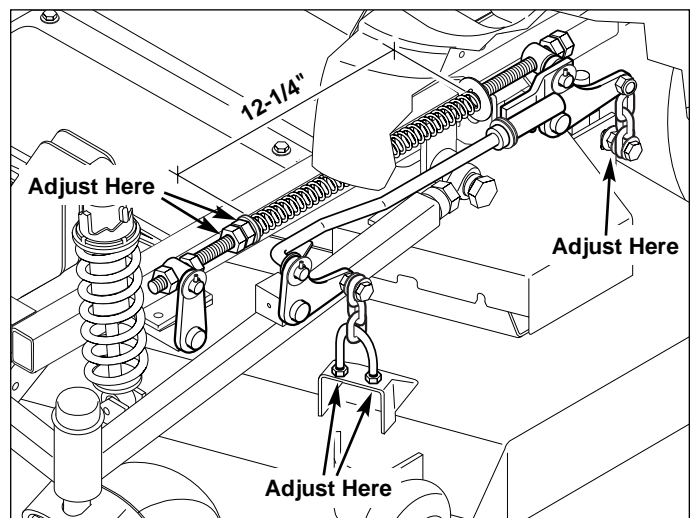

Figure 33. Deck Level & Spring Length Adjustment
7. Adjust the front U-bolts until the chains are tight and the deck is still resting on the 2 x 4's. Tighten jam nuts. See Figure 33.
8. Loosen the nuts and allow the rear of the deck to rest on the 2 x 4's and 1/4" spacers. Slide the chains down in the slots until the chains are tight and tighten the nuts. See Figure 33.
10. With the deck height adjustments complete and cutting height still set at 4", adjust the deck lift spring to a compressed length of 12-1/4" (measure spring only). Adjust the length of the deck lift spring by tightening or loosening the (2) 5/8" hex nuts that are closest to the spacer at the front end of the spring (see Figure 33). After adjustment is made, tighten these two nuts together. Perform this step to both springs.